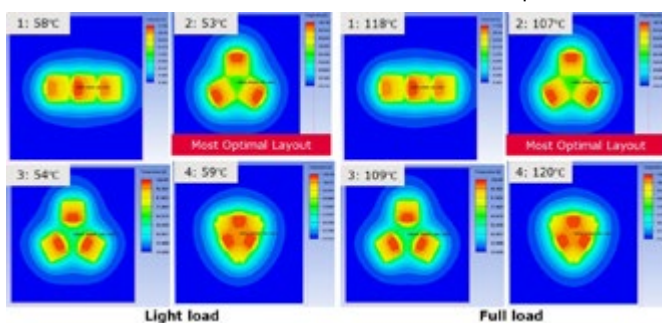

Figure 2: Light load and full load simulation results
0.3W, and for full load condition, we assume each CIPOS™ Nano IPM has a loss of 1W. Table 1 shows the simulation results. Figure 2 shows both the light load and the full load simulation thermal images. From the simulation results we can see that option 2 is the optimal layout, which has the least temperature rise under the same power dissipation. At light load condition, it is 5°C better than the regular layout, option 1. At full load condition, it is around 10°C cooler than option 1.